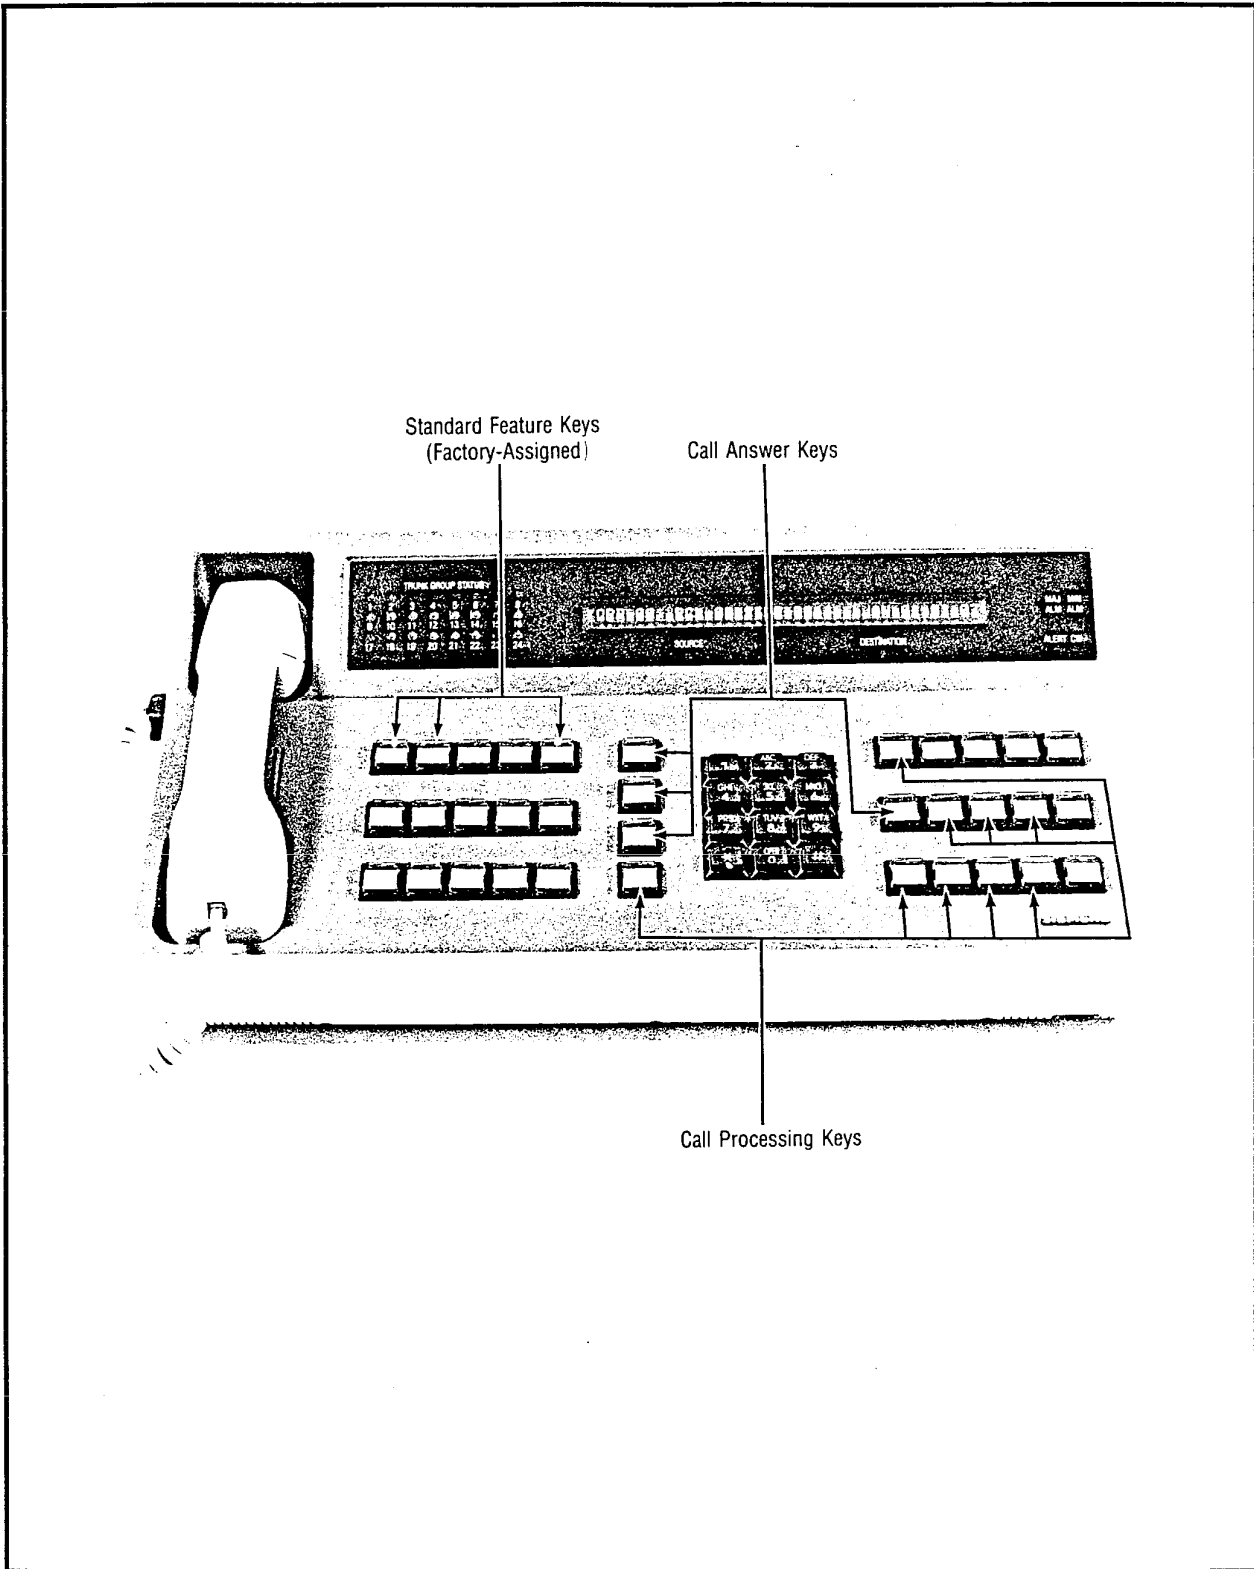

Figure 3.01 Call Answer, Call Processing, and Standard Feature Keys
**3.06 Call Answer Keys.** The Call Answer Keys, shown in Figure 3.01, are four keys used to answer calls placed on the particular console by the system. These four keys are described below according to their classification.
**3.07 Call Processing Keys.** The Call Processing Keys, shown in Figure 3.01, are used to process calls, as well as to initiate features. These keys are described below according to their classification.
**3.08 Standard Feature Keys.** The Standard Feature keys, shown in Figure 3.01 are three keys containing the standard factory-assigned feature equipped with each console. These feature keys are described below according to their classification.